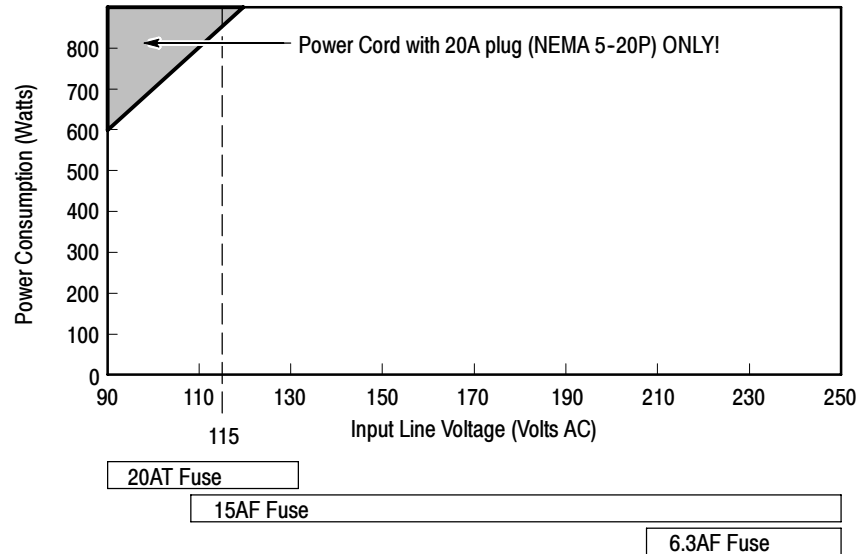

Figure 35: Fuse identification chart
4. Refer to Figure 35 on page 63 to determine the proper line fuse for your mainframe.
Select the proper fuse based on the ranges shown in Figure 35.